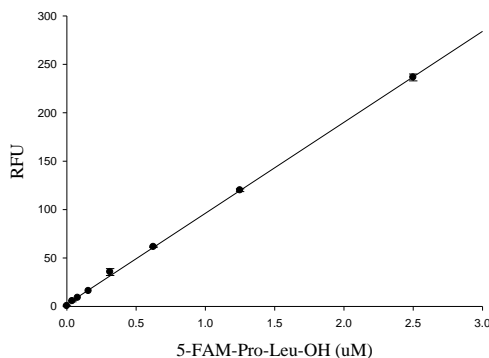

Figure 2. 5-FAM-Pro-Leu-OH reference standard curve
- Plot 5-FAM fluorescence reference standard as RFU (relative fluorescence unit) versus concentration as shown in **Figure 2**.